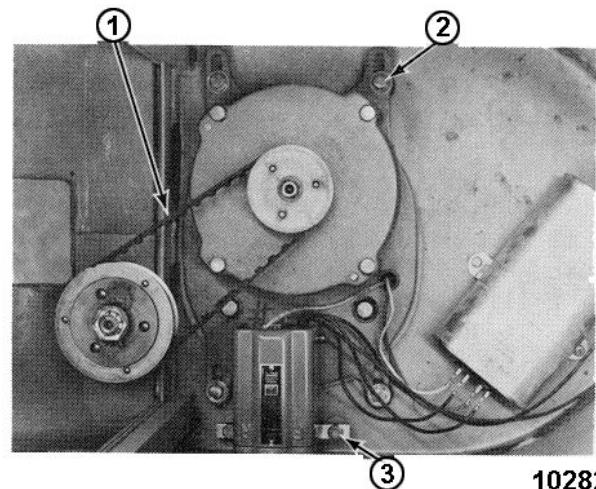

Fig. 145
6. Remove the gear case mounting bolts [2] Fig. 145.
8. Remove the two mounting bolts from the switch [3] Fig. 145, rotate the switch to pull the switch handle through the hole in the pedestal and lift the PBL and switch out of the pedestal.